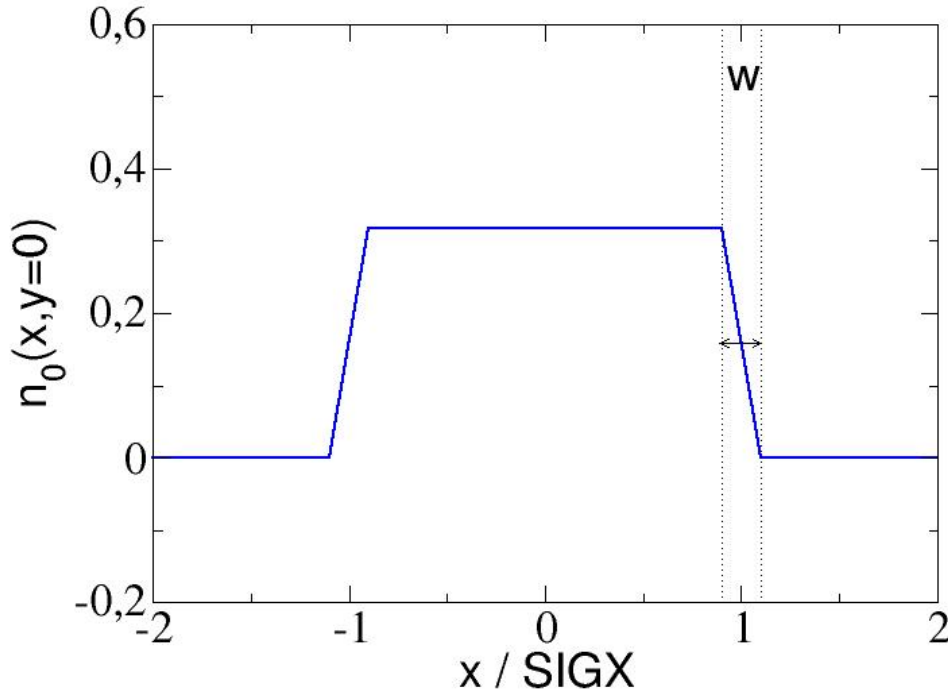

Figure 10.2: Trapezoidal shape of radial density for beam-beam lens.
- BBSHAPE=2: trapezoidal shape (see fig.10.2). **SIGX**, **SIGY** are the half widths of density profile, *i.e.* distance from the centre to half edge region with linear decrease of density in horizontal and vertical directions. Only circular opposite beam is possible, *i.e.* in the calculations $\text{SIGX}' = \text{SIGY}' = (\text{SIGX} + \text{SIGY})/2$ is used, if **SIGX** and **SIGY** have different values. **WIDTH** denotes the full width of the edge region in units of **SIGX** (or SIGX' and SIGY' , respectively, if **SIGX** and **SIGY** are not equal), *i.e.* if **WIDTH**=0.01 and **SIGX**=5mm, the edge region has a full width of 0.05 mm. Condition: **WIDTH** < 2.0.